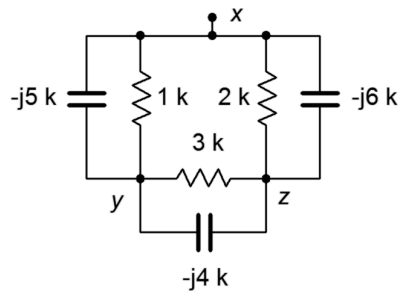

Figure 5.30
56. Determine the equivalent Y (T) network for the circuit of Figure 5.30.